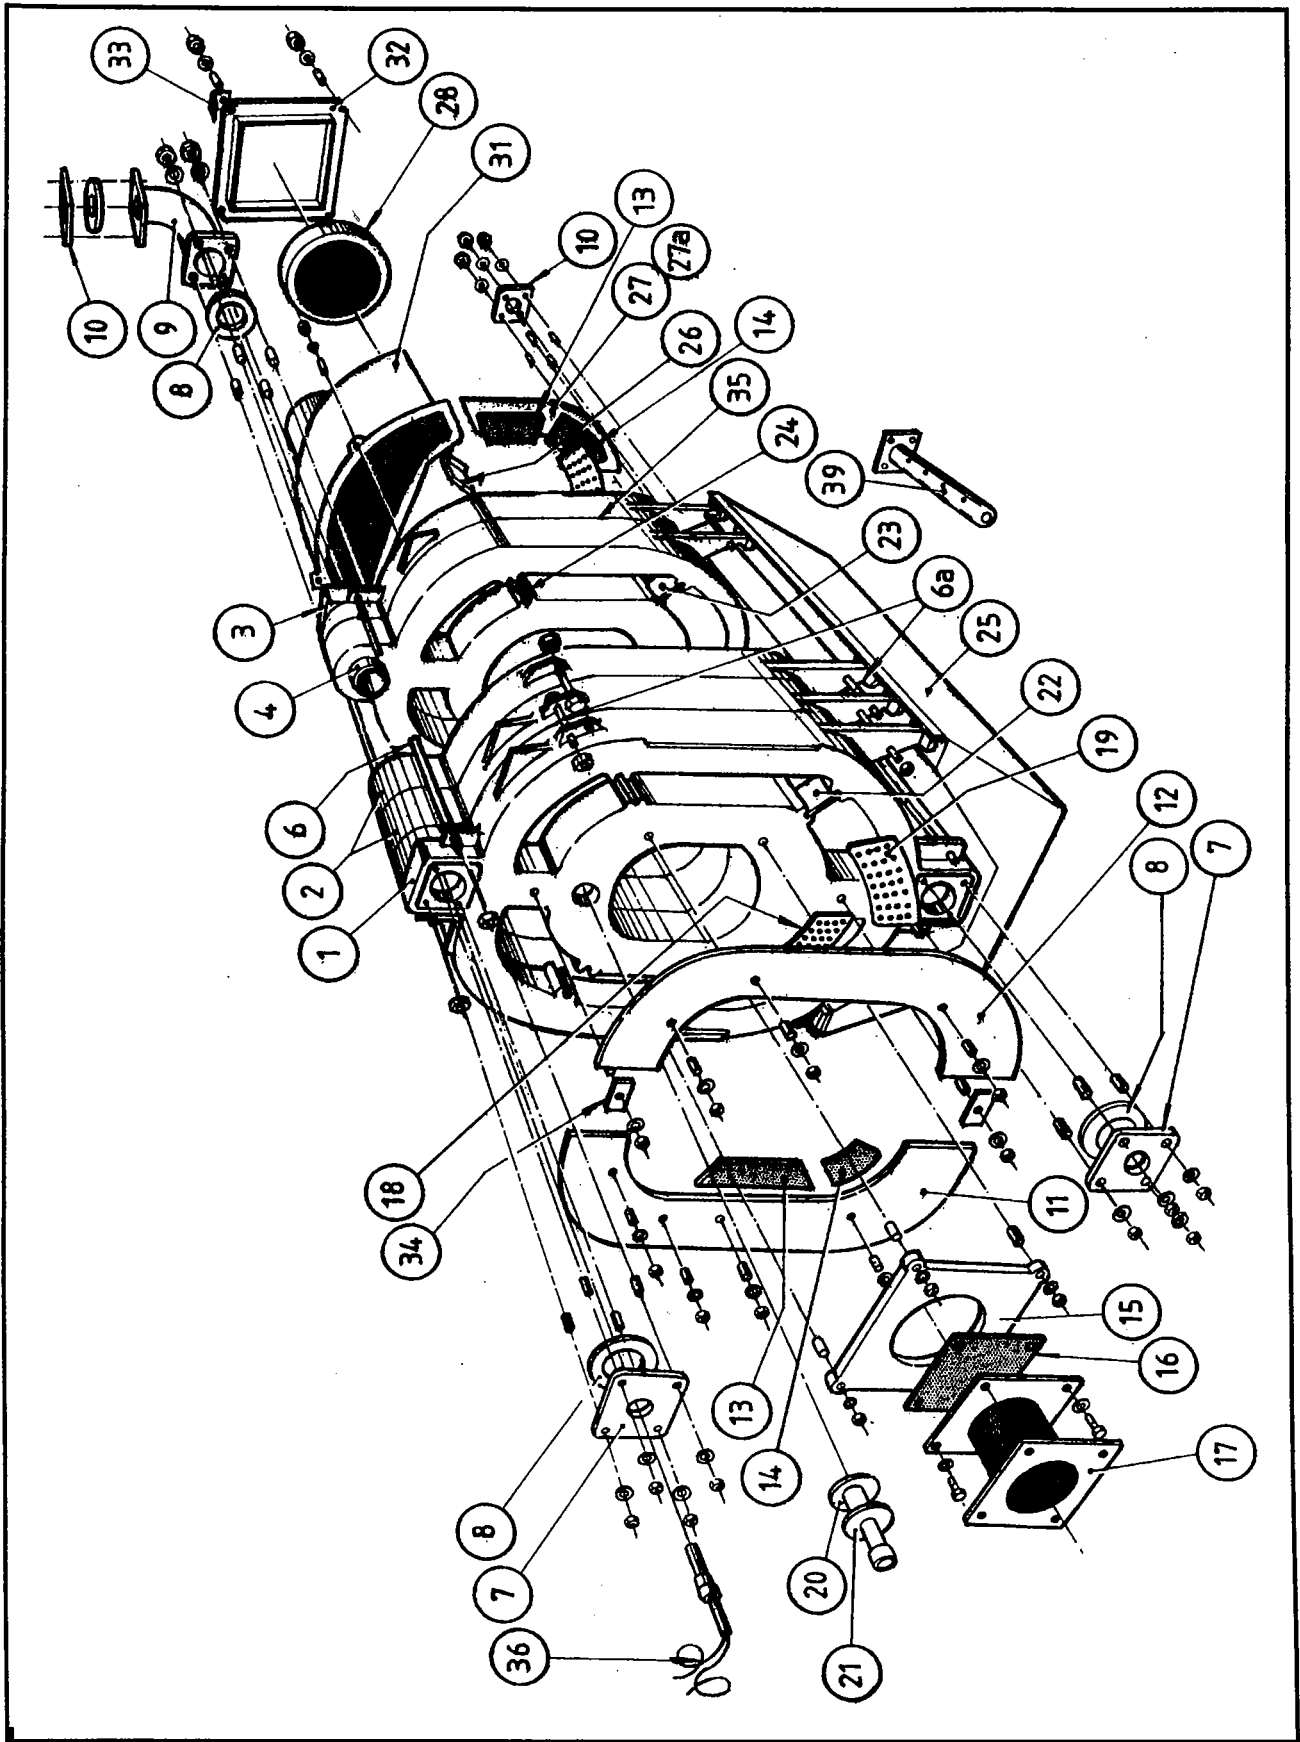

Figure 15.1 – Exploded View of Boiler
b. Remove heat exchanger access plates (11,12 and 15 referring to Fig. 15.1), and corresponding insulation panels, from boiler front section.
15.1 Boiler Spares (refer to Fig. 15.1)